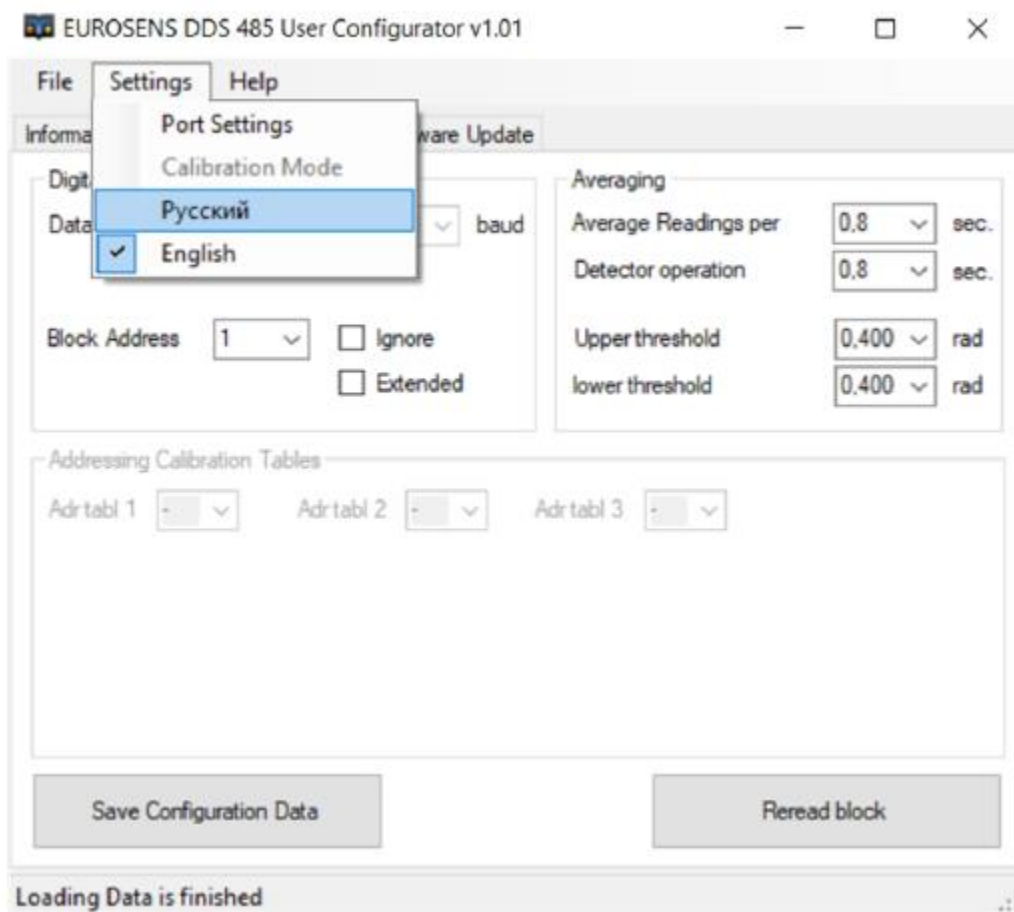
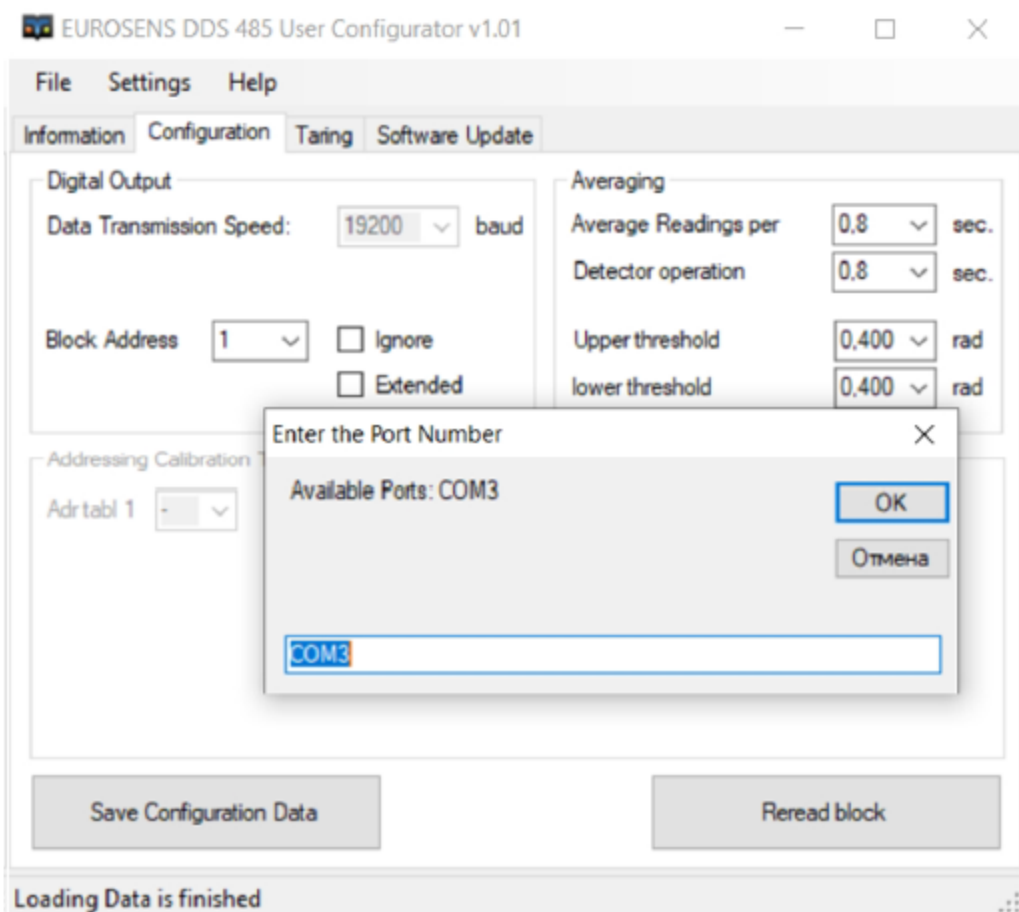

fig. 4.6. Port Settings
fig. 4.7. Entering Port number
- 3) indicate the COM port of the device (fig. 4.6 and fig. 4.7).